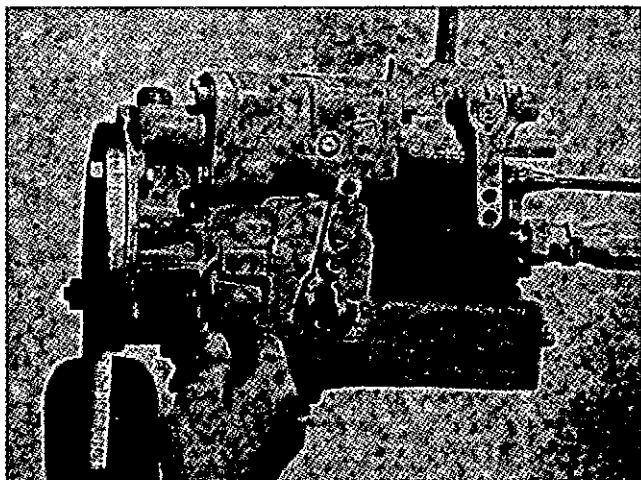

Fig. 10-42, (F5378). Set the throttle travel.
1. Use a throttle lever template Service Tool No. 3375355, a protractor or Tool No. 3375855. Set the idle position of the automotive throttle lever centerline at 27-29 degrees from the vertical (toward the gear pump) throttle shaft centerline, Fig. 10-42. Tighten the retaining capscrew and nut of the throttle lever.